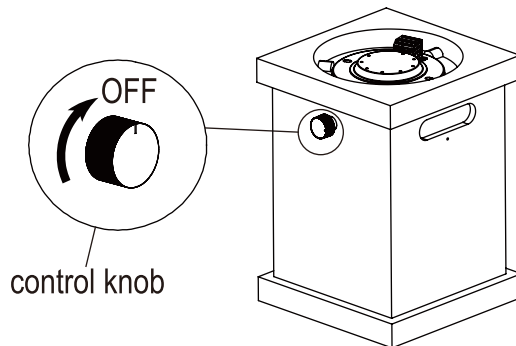

Figure 1
- Check that the control knob is turned to the "OFF" position before starting any assembly (See Figure 1).